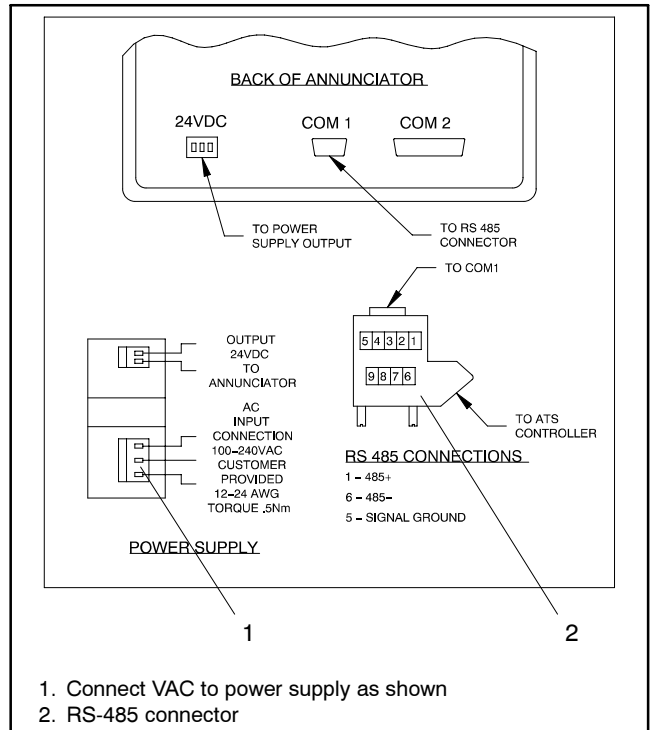

Figure 3 Annunciator Connections
1. Connect the shielded twisted-pair cable to terminals 1, 5, and 6 on the annunciator's RS-485 connector. See Figure 3 for the connections.
2. Plug the RS-485 connector into the annunciator's 9-pin communication port (COM1). See Figure 3.
4. Connect AC or DC power leads to the annunciator. See Figure 3. Choose step a or b below: